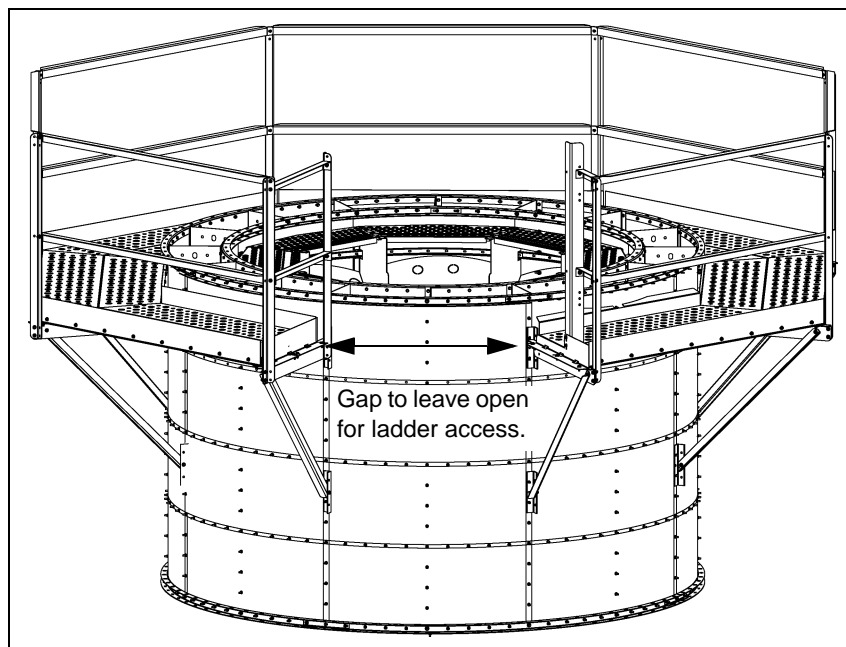

Figure 8V
10. Make sure brackets and/or catwalk brace are NOT installed over the ladder braces as this would block ladder installation. (See Figure 8V.)